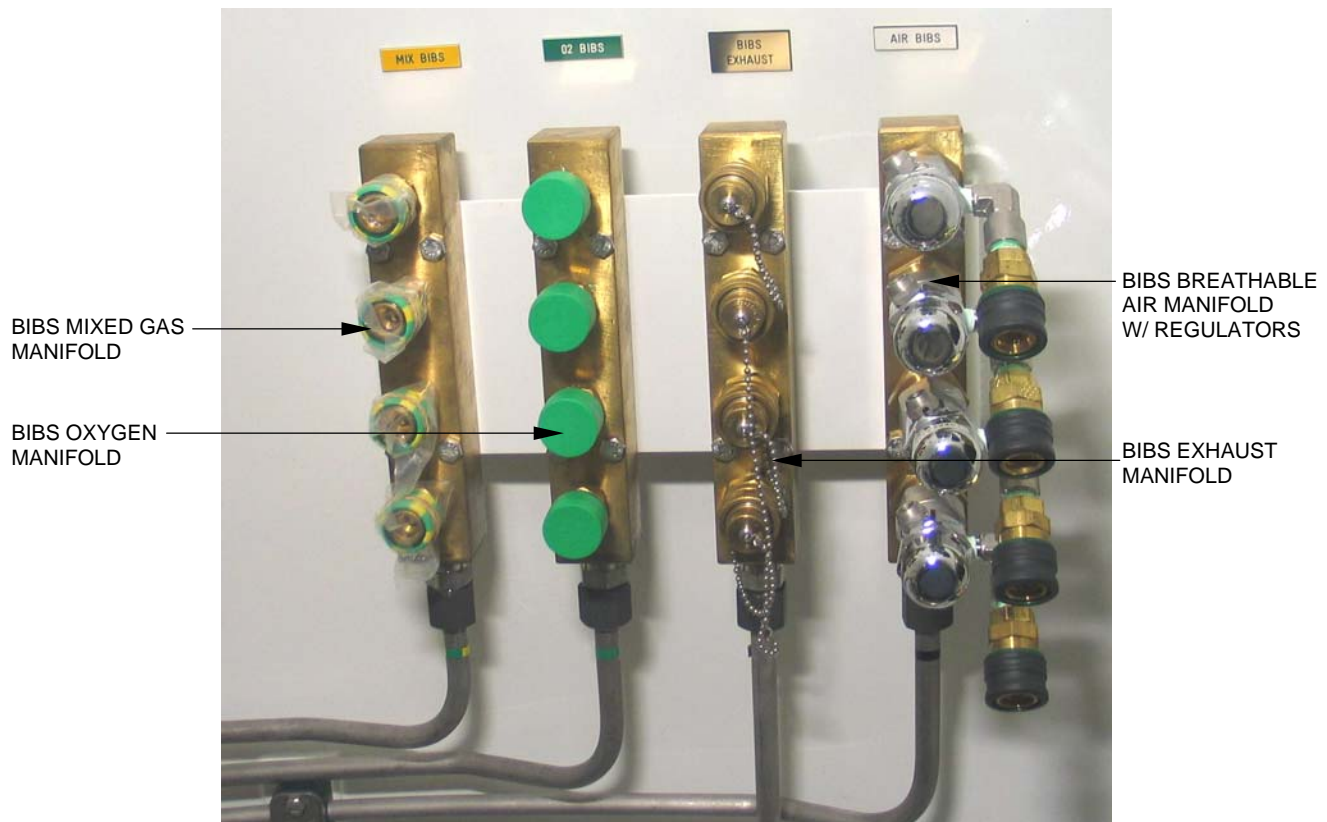

Figure 3-19. BIBS Manifolds (Inner Lock)
- g. Inside the inner lock, a check valve (OLP-V-12) is provided as a backflow preventer in the event of an upstream failure of the oxygen supply (see Figure 3-19). Similarly, in the outer lock, a check valve (OLP-V-9) is provided. From these check valves, the supplied oxygen passes to manifolds, which can connect the BIBS masks via quick disconnects.